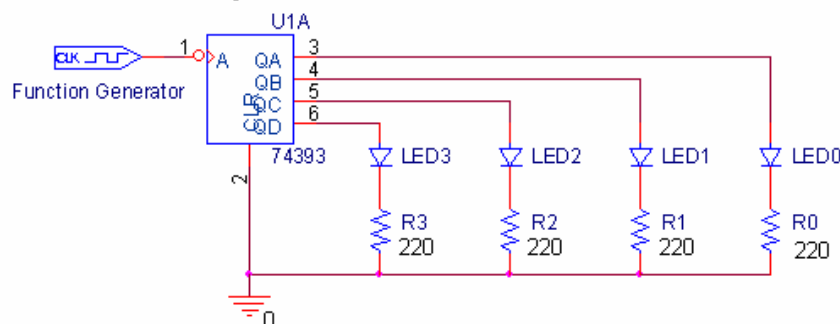

Figure C-4
- Build the circuit in figure C-4 on your protoboard.